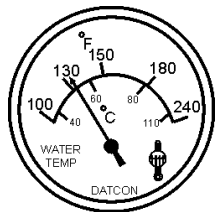

Figure 32. Coolant Temperature Gauge
10. The water temperature gauge (Figure 32) will indicate the coolant temperature. Under normal operating conditions the coolant temperature is between 165 and 215 degrees fahrenheit.